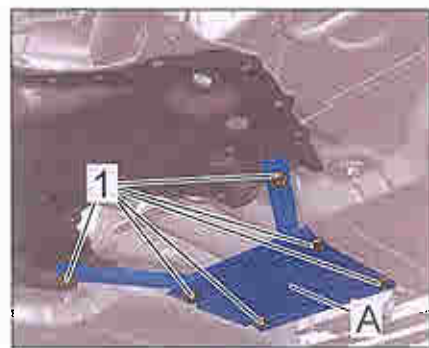

Figure 18
- 7.1 Place brace plate ⇒ *Figure 18-A-* in installation position.